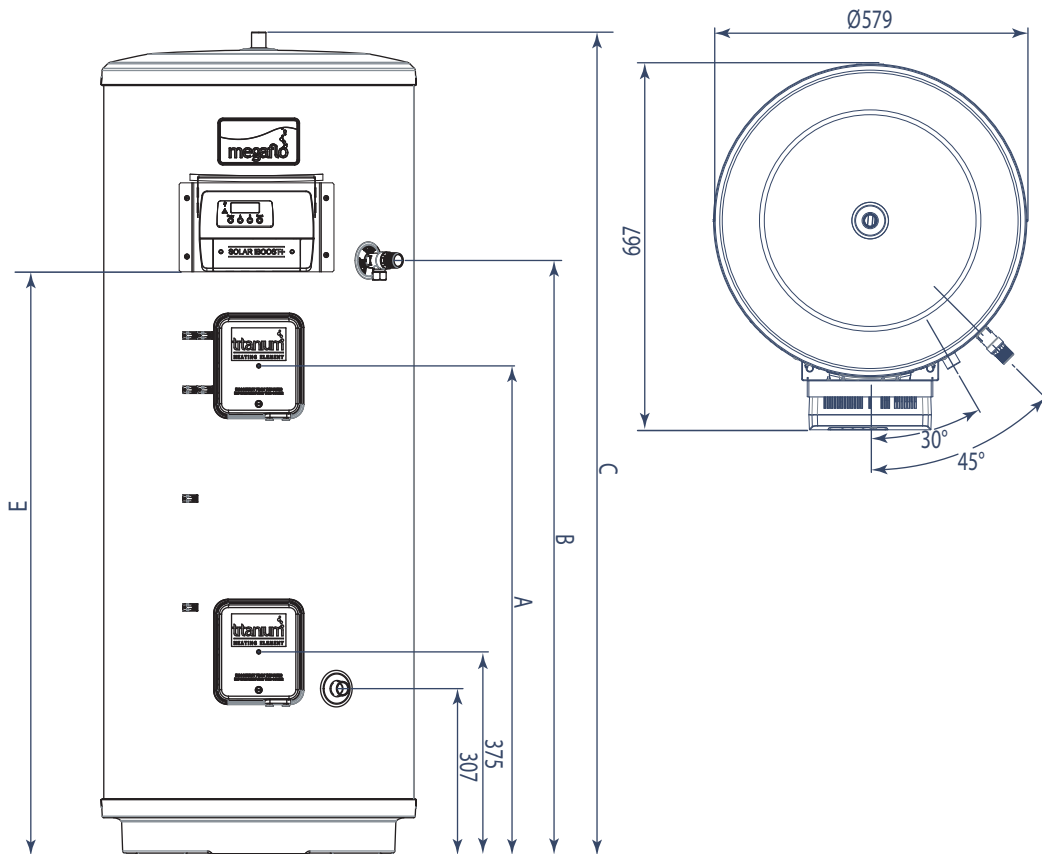

Figure 1: General dimensions - Direct models
- the type or characteristics of the pressure-relief device and how to connect it; (see Figure 1 for details and Figure 18, page 30 for exploded view)
Table 4: Dimensions (see Figs. 1 and 2 for details)